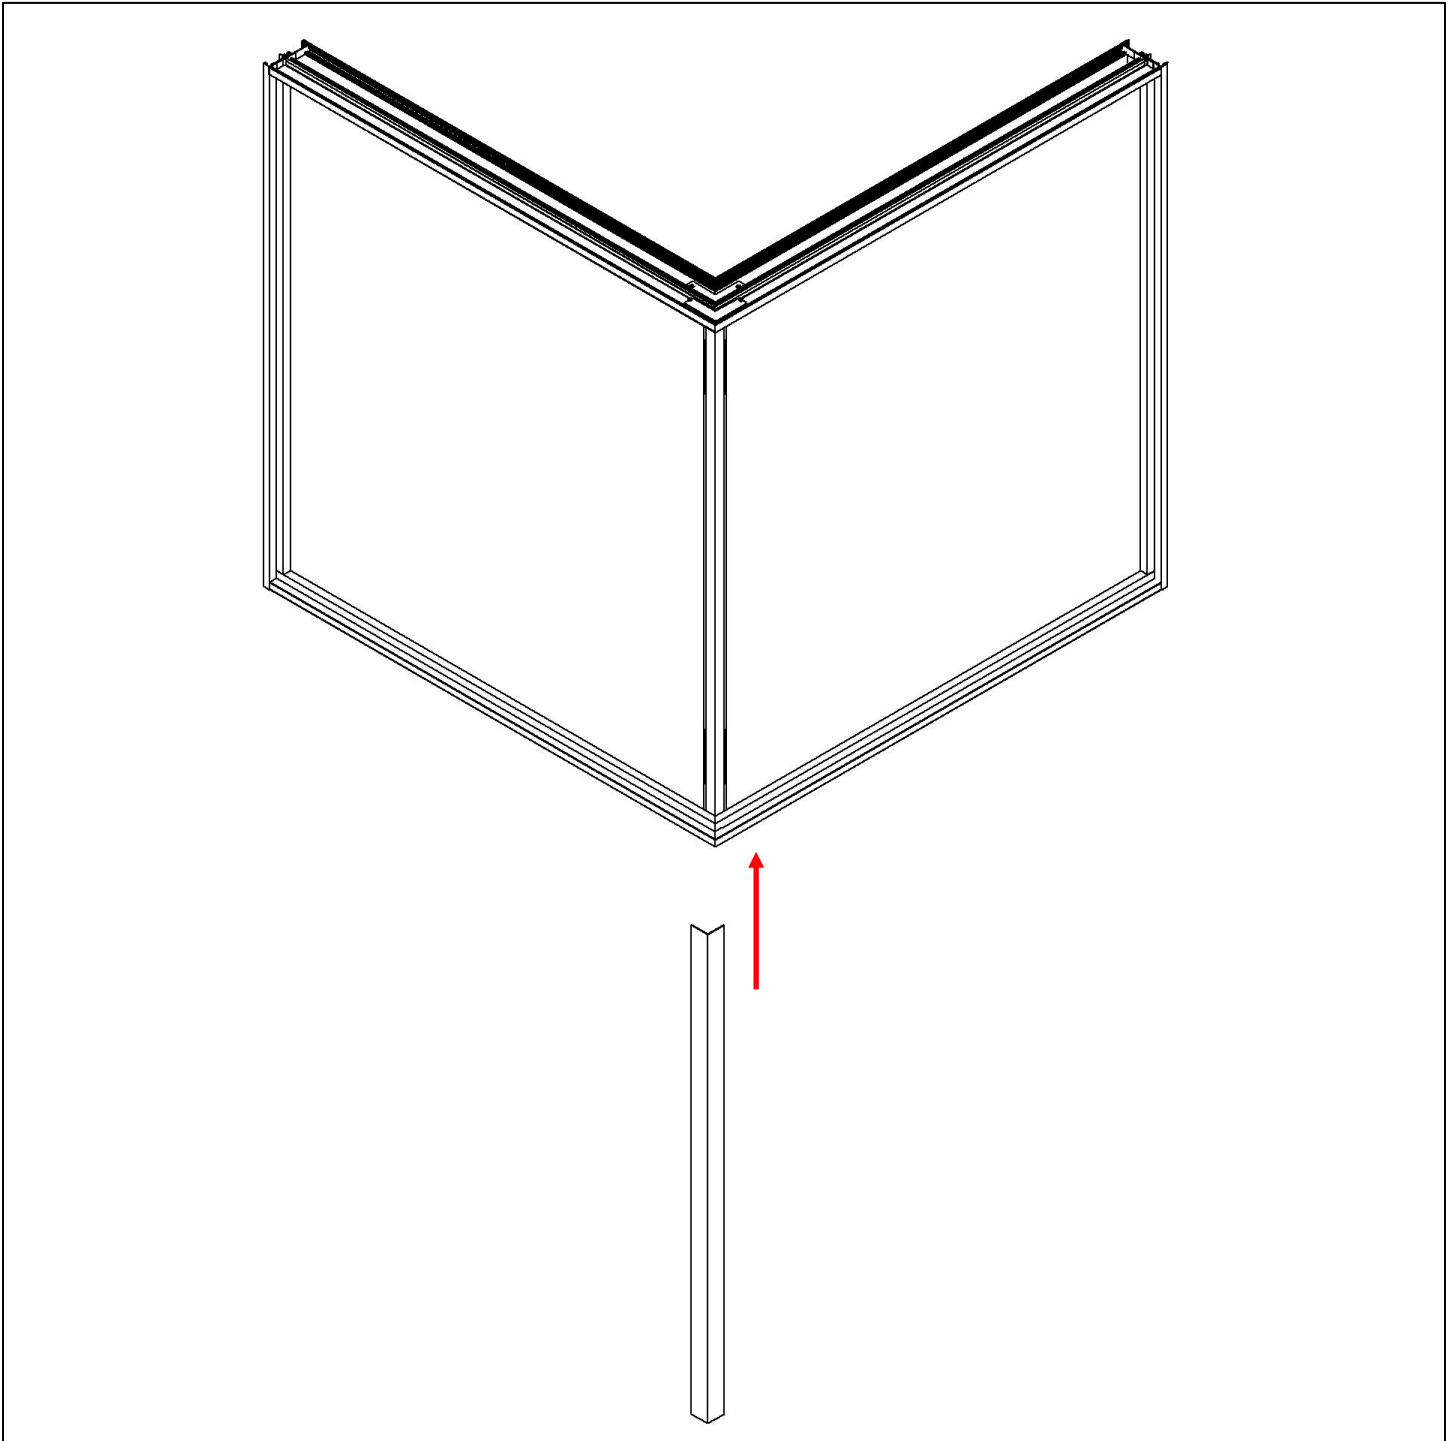

Fig. 9
4. Take the outside cap and peel the glazing tape. Place the cap on the outside corner of the miter joint (see Fig. 9).